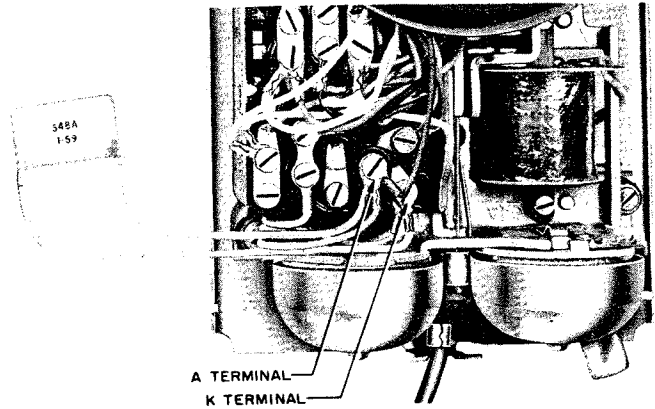

Fig. 10 - Connection for Open Capacitor
9.03 If ringing capacitor is open, a 548A capacitor can be bridged across A and K terminals of the network (see Fig. 10).